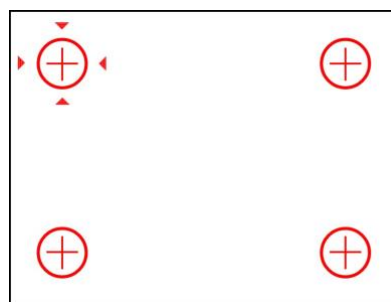

Figure7-2
- For the interface shown in Figure 7-2, if you press a button when prompted, the red icon of the corresponding button will turn black. After that, the red logo will move to the next button position, after pressing the four corresponding buttons in order, you can exit the anti touch locking interface. If the corresponding position button icon is still red after pressing the key, it means that the wrong button was pressed.